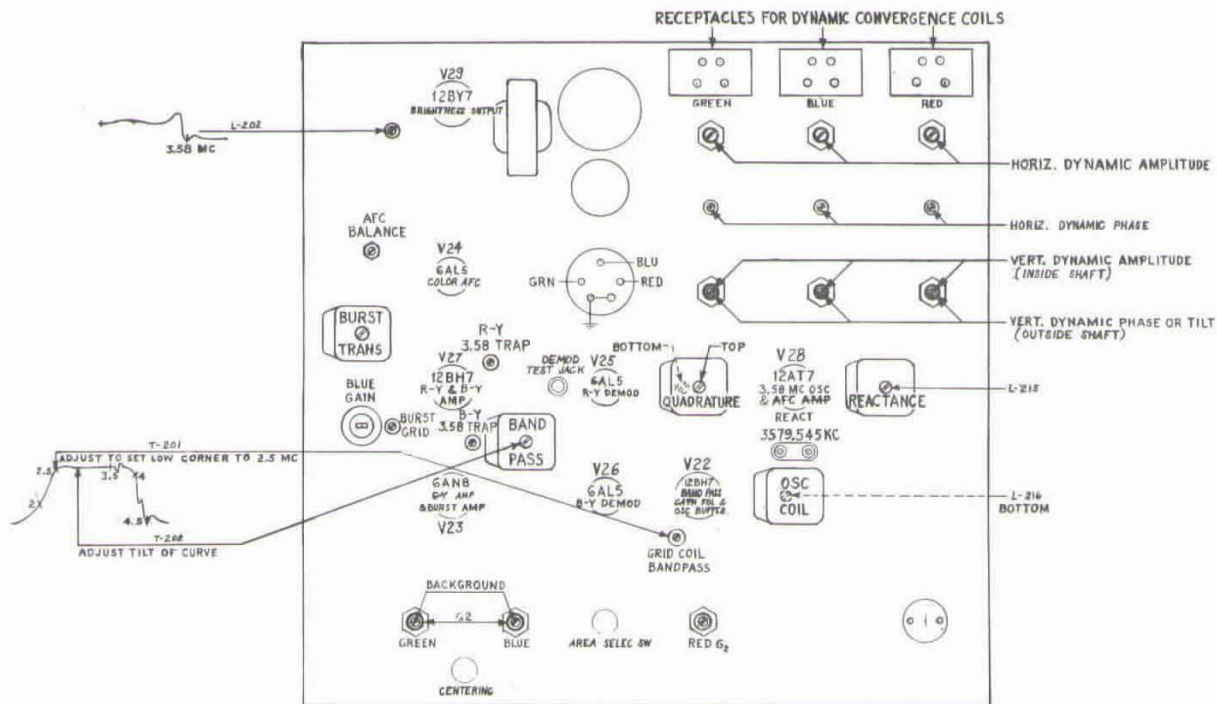

FIGURE 14.
- b. Turn the blue horizontal dynamic amplitude control to maximum (fully clockwise). Set the red and green horizontal dynamic amplitude controls to minimum (fully counterclockwise). (Fig. 14).